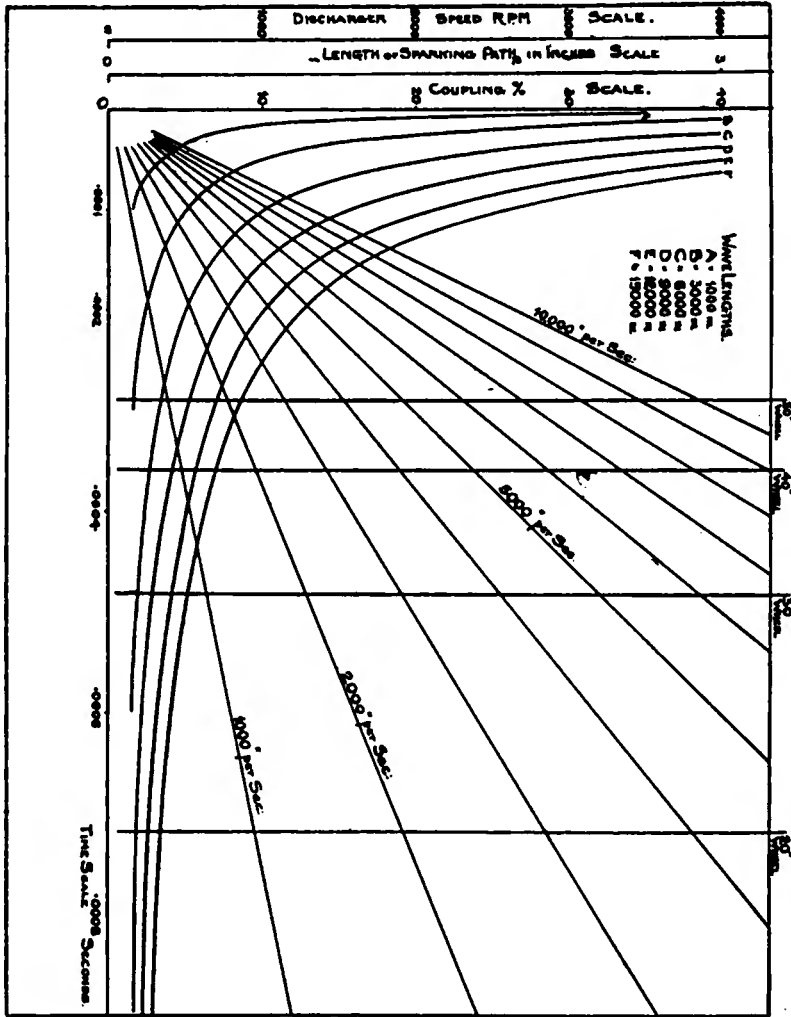

Figure 4—Sparking time, wave-length and coupling
**T**ABLES and curves can be drawn up (see figures 4 and 5) showing the relations between the coupling, the number of oscillations for various wave lengths per unit of time, and the stud velocity. The size of the studs and of the electrodes in the direction of motion can be ascertained from them.